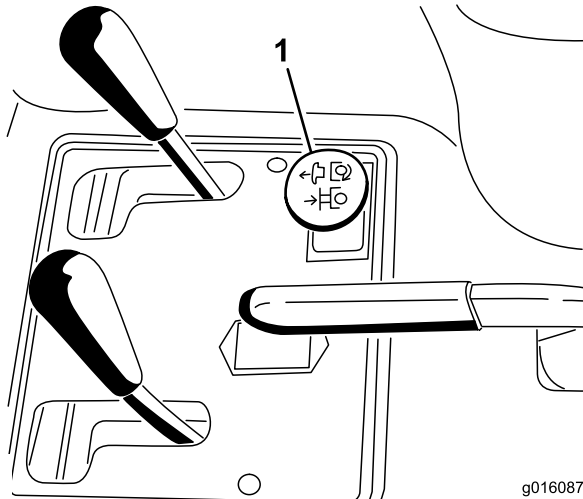

Figure 19
3. Engage the blade by pulling up on the Remote Hydraulics control knob (Figure 19).
- Disengage the blade by pushing down on the Remote Hydraulics control knob (Figure 19).